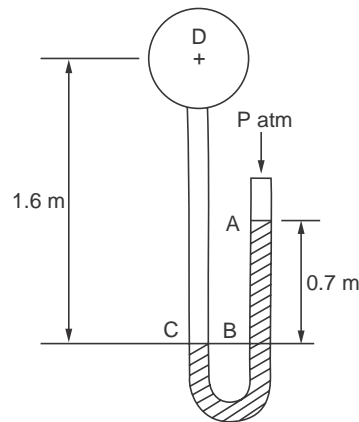

**Figure E. 2.9**
- E.2.9.** For the manometer shown in Figure E.2.9, determine the length  $AB$ . The pressure at point 1 and point 4 are 30 kPa and 120 kPa. **[68.3 cm]**